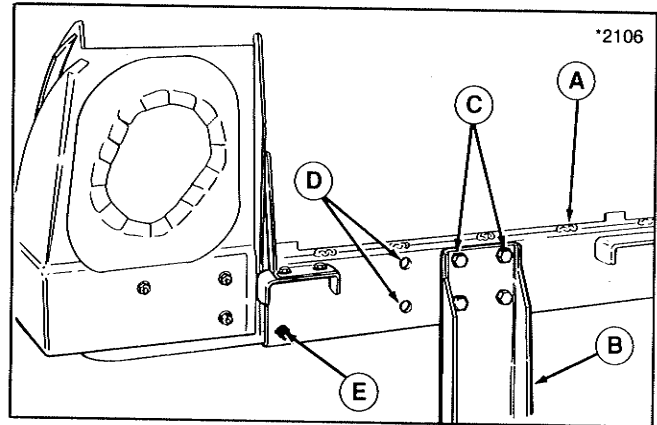

Figure 17.
25. Install horizontal bag support (A, figure 17) to upright (B) with four 3/8-16 x 7/8" capscrews (C, from front) and flange locknuts. Install 5/16 x 3/8" taptite screws (from front) into top holes in heat shield and bag support (E). Tighten taptite screws securely. Tighten capscrews (C) when upright and support are square. Note that the open set of holes (D) is toward the discharge side of mower.